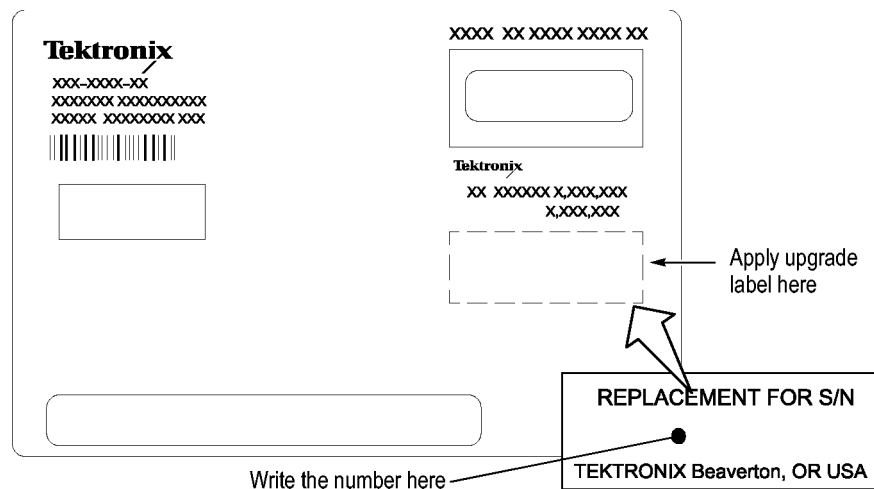

Figure 13: Adding the mainframe serial number to the Interface Module label
3. Write the mainframe serial number on the Replacement For Serial Number label included in the kit. (See Figure 13.)
4. Affix the Replacement For Serial Number Label to the large white label on the side of the new TLA7016 Interface Module. (See Figure 13.)